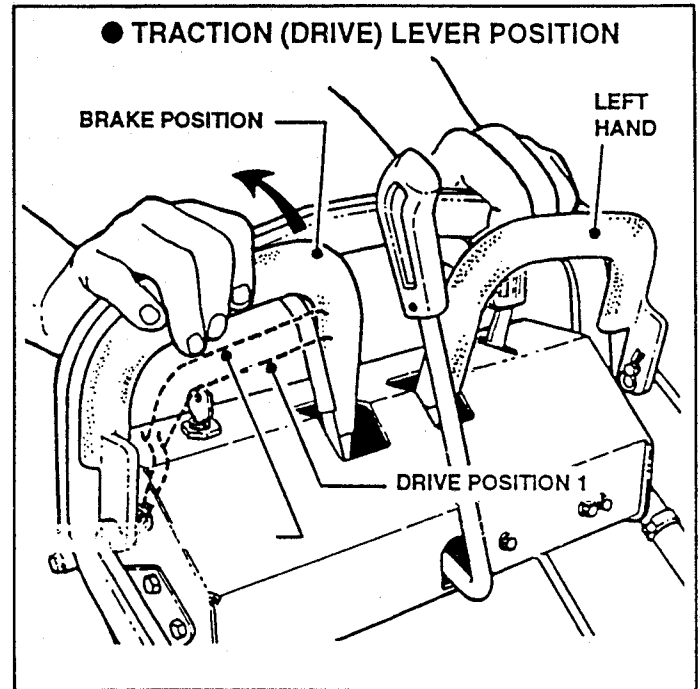

FIGURE 18
2. Hold right Traction Lever in intermediate position. See Figures 18 & 19.
2. Hold Right Traction Lever in BRAKE position. See Figures 18 & 19.